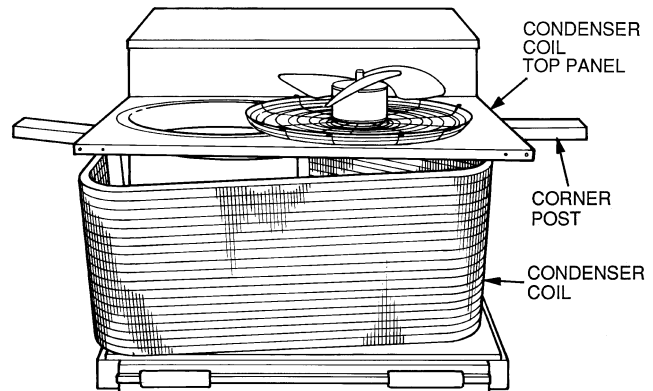

Fig. 46 — Propping Up Condenser Coil Top Cover
8. Use right corner post to prop up right side of condenser coil top cover. Slide condenser coil partially out of condenser fan housing. See Fig. 46.